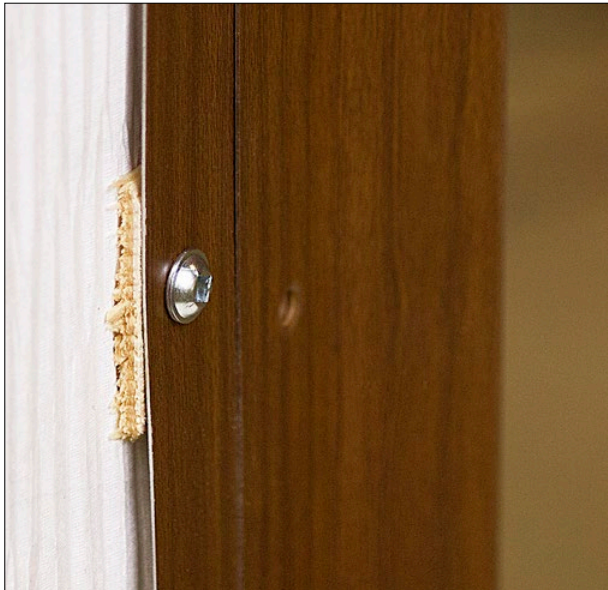

Fig.72
Step 3: Because the LUX Snap-T is a truly straight and accurate corner, variations in the substrate will have to be accommodated for when installing the corner. Shimming may be required to adjust for substrate variances and in order to guarantee that the ends are flush with each other and are aligned for the installation of cover trims (Fig.72).